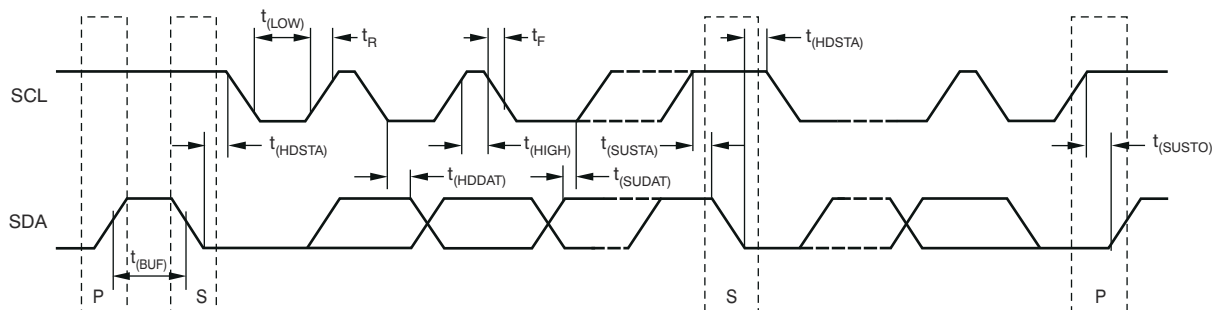

图 6-1. Two-Wire Timing Diagram
(1) Tested with less than $5\text{-}\Omega$ effective series resistance and 100-pF differential input capacitance.
6.6 Timing Characteristics for 图 6-1